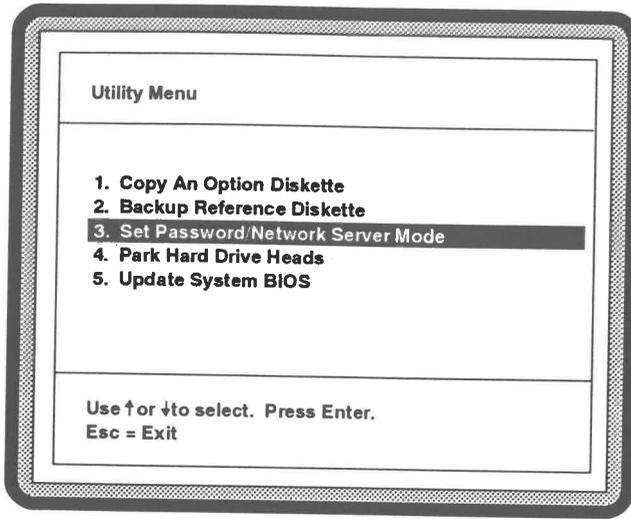

Figure 4-12 Initiating the Set System Password Program
4. When the **Utility Menu** appears, select the **Set Password/Network Server Mode** option and press Enter (see Figure 4-12).